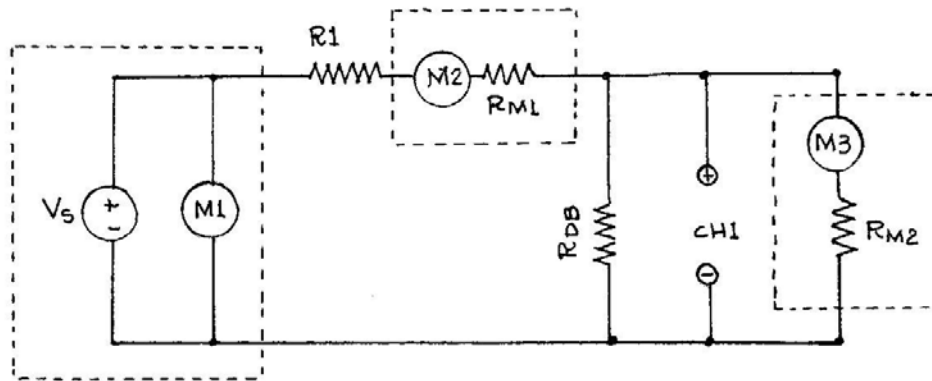

Figure 3: Using  $R_{DB}$  as a shunt
5. To understand how shunts work, connect the following circuit (Figure 3).
The circuit shown in Figure 3 can also be used to determine the internal resistance  $R_{M2}$ . Therefore, construct this circuit, set the analog multimeter on the 1 mA scale